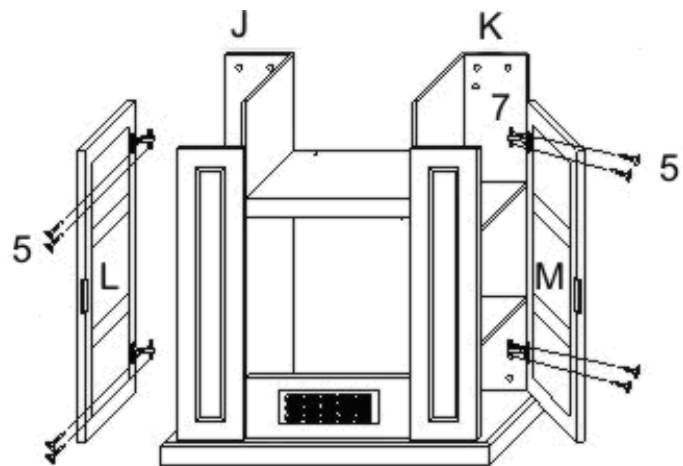

**Fig. 8**
Step 7: Use 2 Cam Lock Nuts (3) to attach Upper Back Panel (G) and Center Shelf Panel (H). See Fig.8 (note illustrative figure shows the partially assembled mantle as viewed from the back).